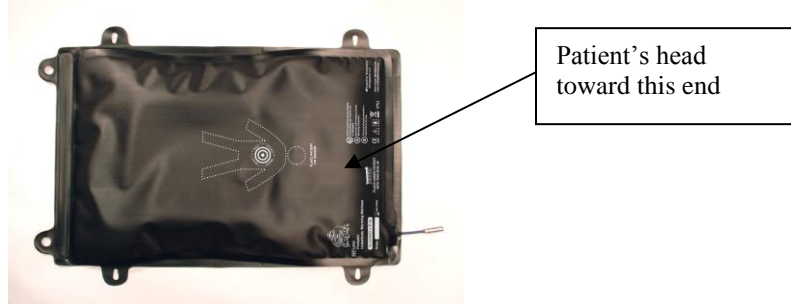

Figure 1
2. Place the Warming Mattress on the padded operating table. The patient’s head should be directed toward the end of the warming mattress with the cable. See Figure 1.